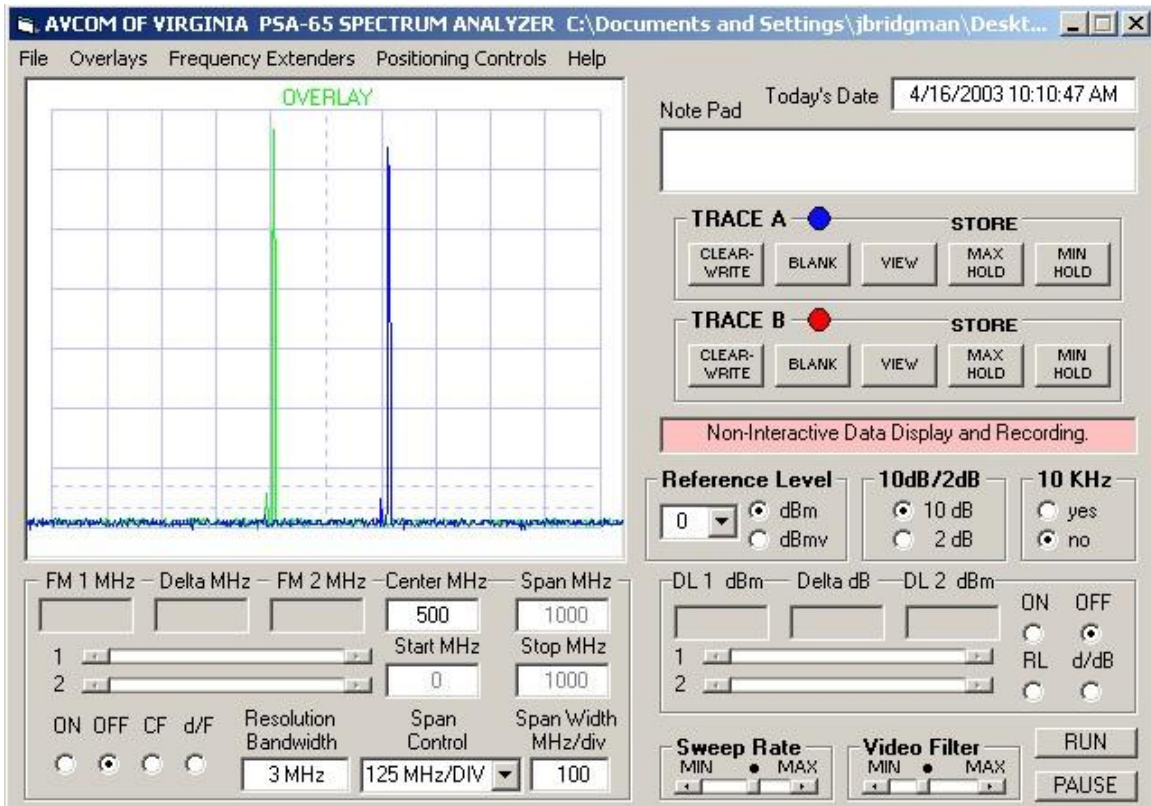

Figure 11-1
3. With the active trace going and the overlay on the screen you should see something like figure 11-1.